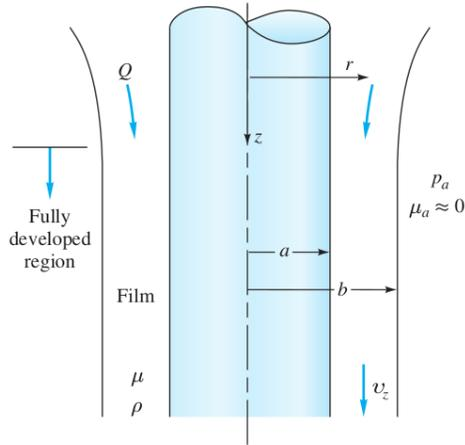

Fig. 4.14
- 4.14 Consider a viscous film of liquid draining uniformly down the side of a vertical rod of radius a , as in Fig. 4.14. At some distance down the rod the film will approach a terminal or fully developed draining flow of constant outer radius b ,